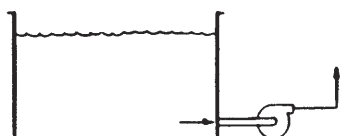

Figure 1
1. Refer to Figure 1. Liquid level is above pump and pump suction connected to side of tank. It is not necessary to prime the pump since liquid will always be in the pump. **IMPORTANT**, a valve located between tank and pump will facilitate pump servicing but it is absolutely necessary that the valve must always be fully open when pump is operating.